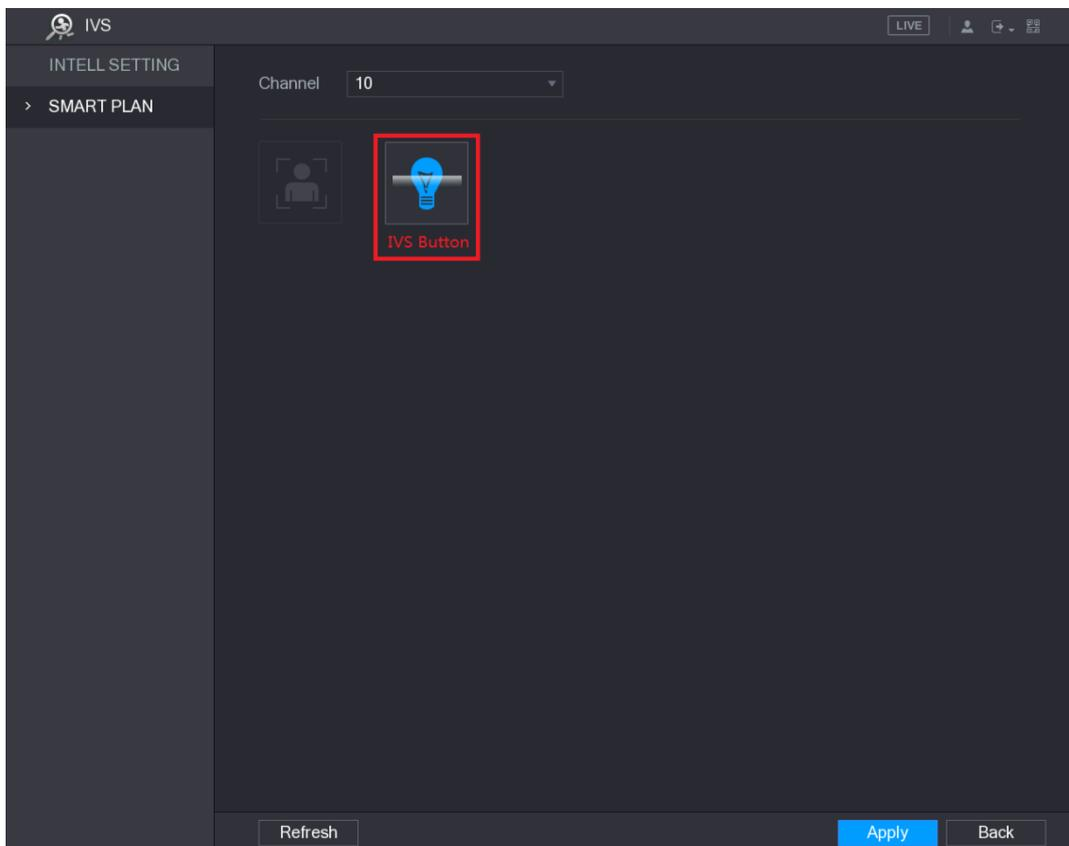

Figure 5-146
- For the IP camera without preset, see Figure 5-146.